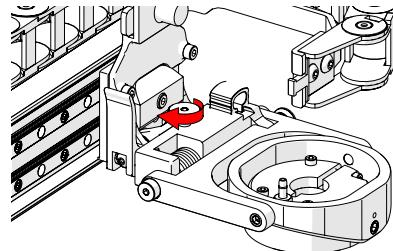

Fig. 139 - Tighten knob
5. Tighten the probe holder adjustment knob (Fig. 139).